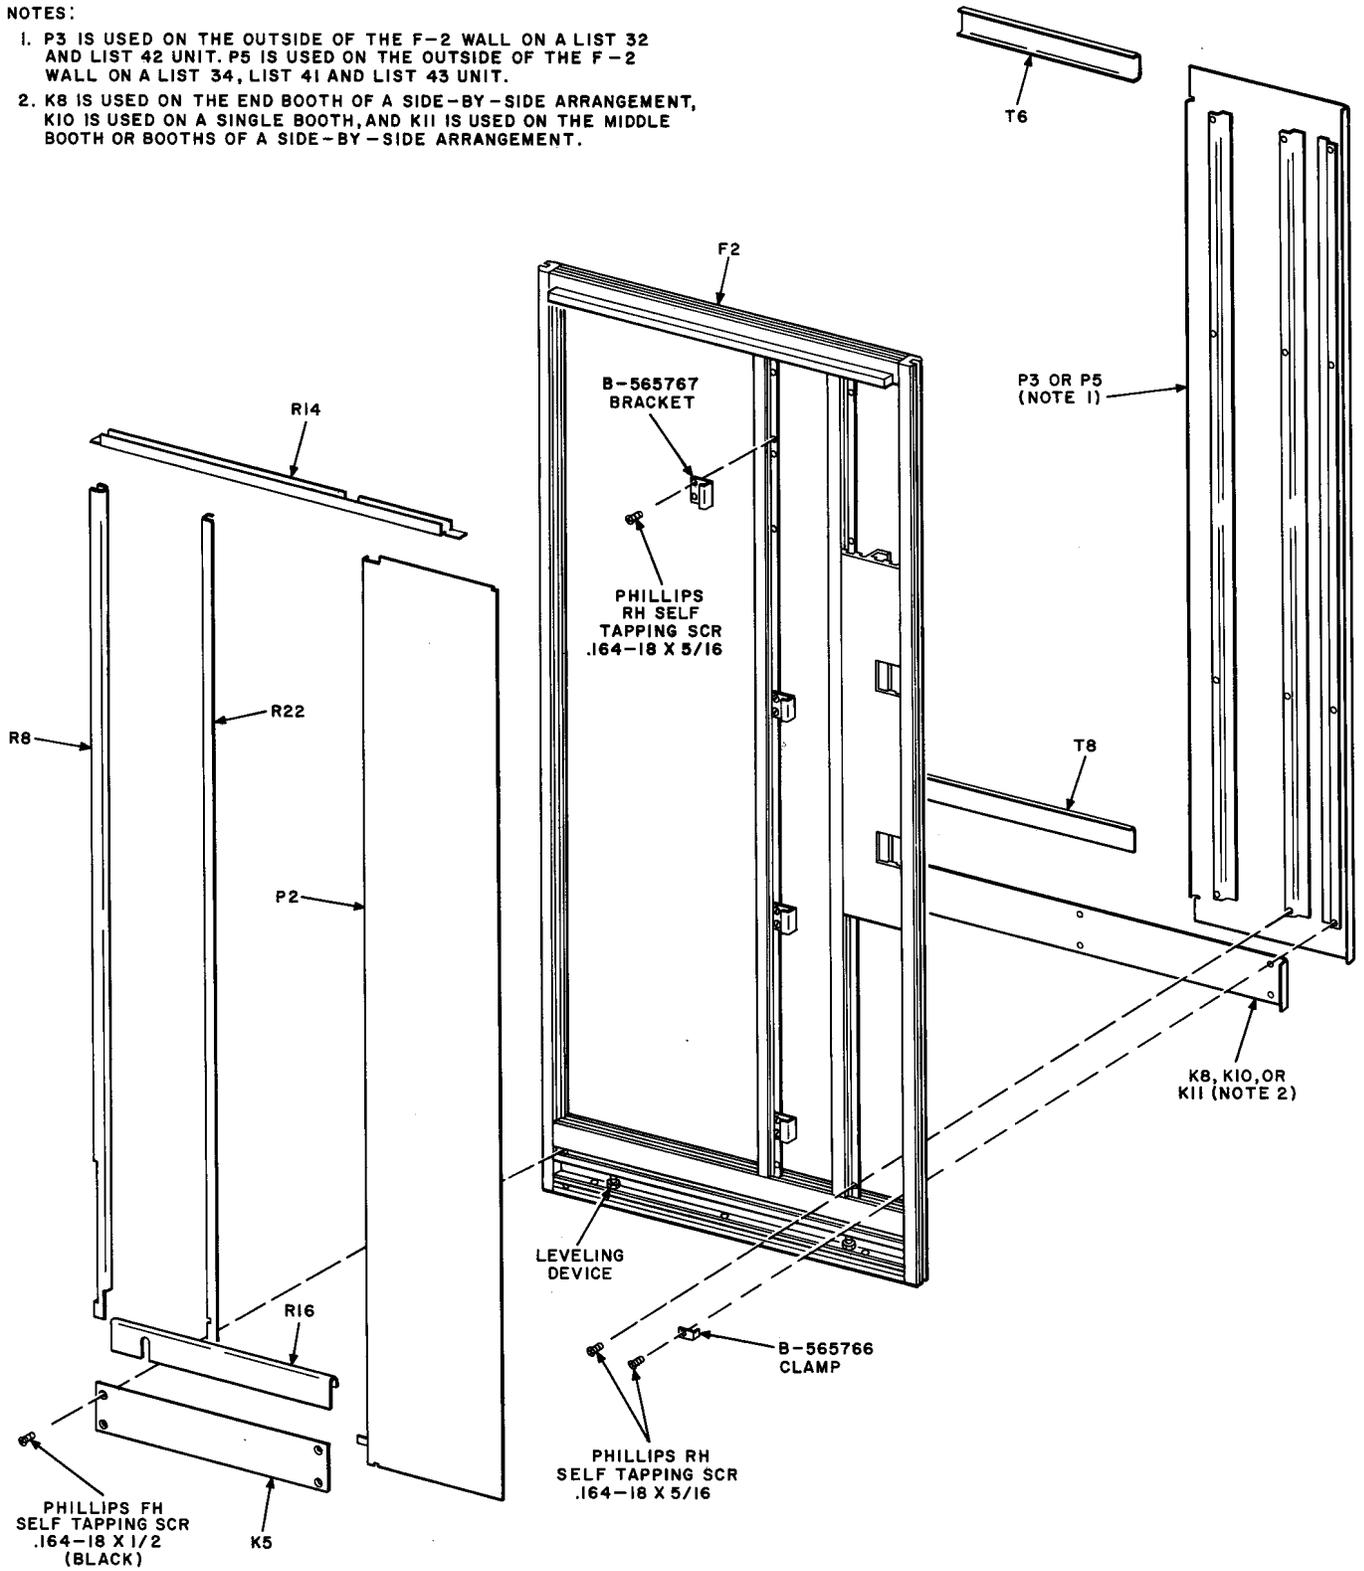

Fig. 20 - F-2 Wall
(x) Install four B-565767 brackets (Fig. 20) on the center column of the rear wall using eight .164-18 by 5/16 unpainted Phillips round head self-tapping screws.
(y) Install P3 panel (Fig. 20) using four B-565766 clamps and twelve .164-18 by 5/16 unpainted Phillips round head self-tapping screws.
(aa) Install K10 outside kickplate (Fig. 20) using six .164-18 by 1/2 painted Phillips flathead self-tapping screws.
(af) Install P2 panel (Fig. 20), using Fig. 12 as a guide. Secure P2 to wall using two .164-18 by 3/8 unpainted Phillips round head screws.
(j) Install four B-565767 brackets (Fig. 20) on the center column of the F-2 wall using eight .164-18 by 5/16 unpainted Phillips round head self-tapping screws.
(k) Install P5 panel (Fig. 20) using four B-565766 clamps and twelve .164-18 by 5/16 unpainted Phillips round head self-tapping screws.
(l) Install K11 outside kickplate (Fig. 20) using six .164-18 by 1/2 painted Phillips flathead self-tapping screws.
- (s) Install K5 inside kickplate (Fig. 20) using four .164-18 by 1/2 painted Phillips flat-head screws.